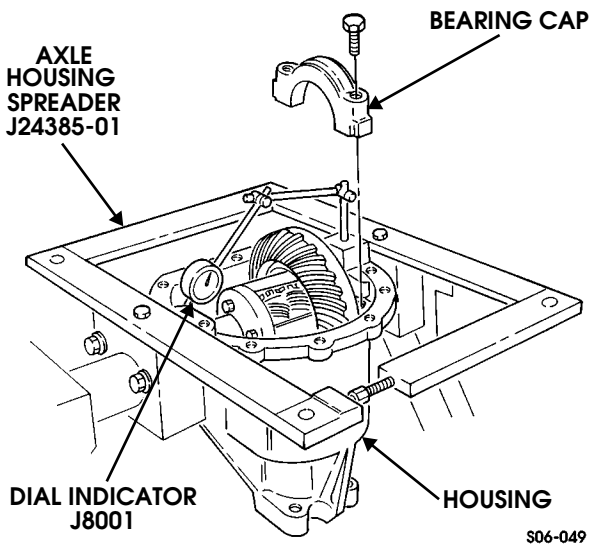

Figure 9-61: Housing Spreader Mounting
8. Mark bearing caps and housing for assembly and remove bearing caps (Figure 9-61).